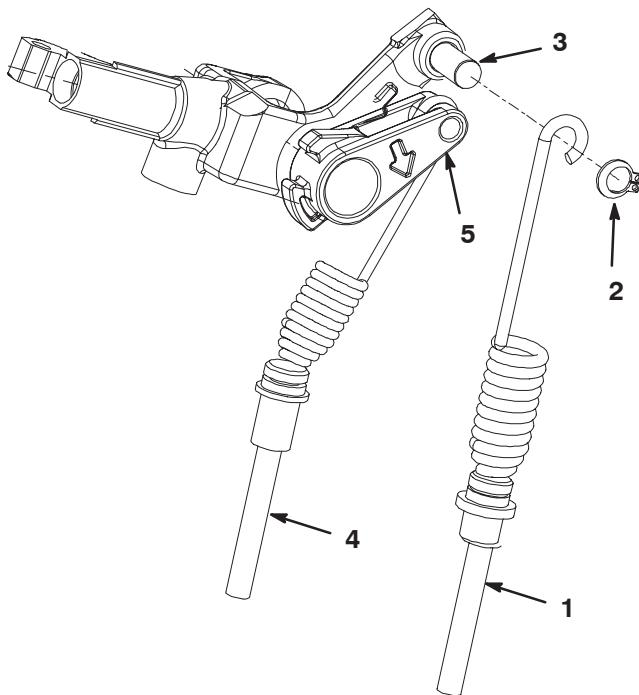

Figure 5
10. Disconnect the traction cable (Fig. 5) from the traction lever assembly as follows:
11. Disconnect the reel control cable (Fig. 5) from the reel control lever as follows:
19. Connect the reel control cable (Fig. 5) to the reel control lever as follows:
20. Connect the traction cable (Fig. 5) to the traction lever assembly as follows: